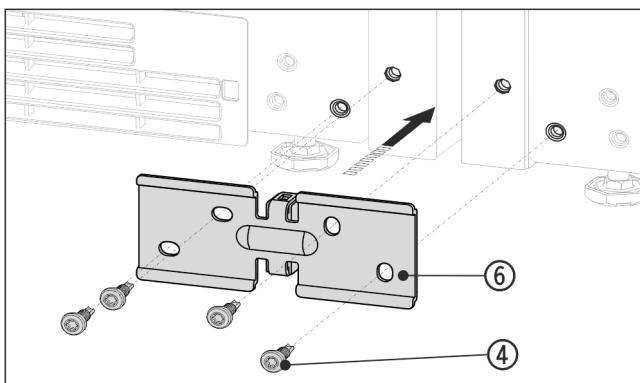

Fig. 13 Example illustration
- ▶ Slide the bracket Fig. 13 (6) with the spacer between the appliances and loosely screw on with 4 screws Fig. 13 (4).